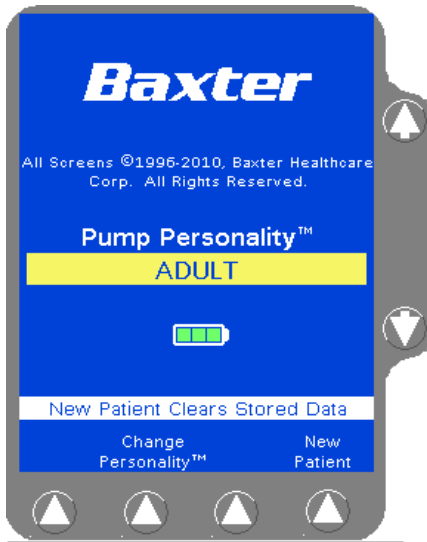

Figure 4-4 Power On Screen After Self-Test
- 3.1 If the continuous tone is heard, press the **Yes** soft key. The pump completes its self-test and then displays the Power On Screen After Self-Test (Figure 4-4).
4. On completion of all self-diagnostic tests, the Power On screen changes to the display shown in Figure 4-4 (for triple channel pumps, Channels B and C power off after self-diagnostic tests complete). The soft keys available on this screen depend on the configuration options selected for the pump:
1. Press the **Change Personality** soft key from the Power On Screen after Self Test (Figure 4-4). A list of available PERSONALITY feature sets is displayed.